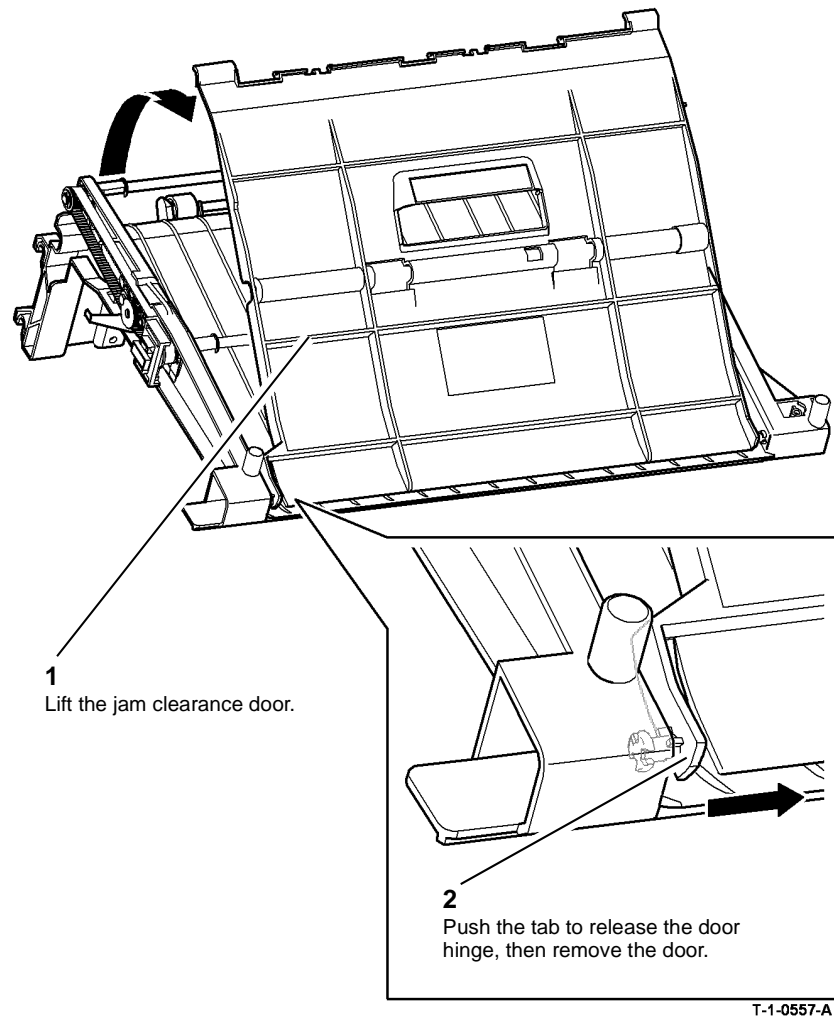

Figure 1 Door removal
2. Remove the jam clearance door, Figure 1.